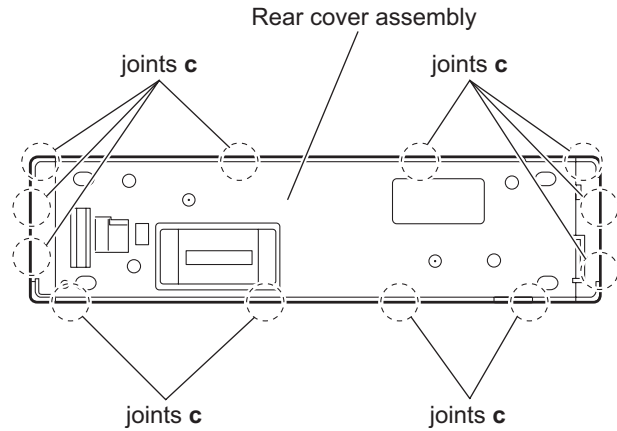

Fig.16
- (2) Release the twelve joints **c** of the front panel assembly and remove the rear cover assembly. (See Fig.16.)